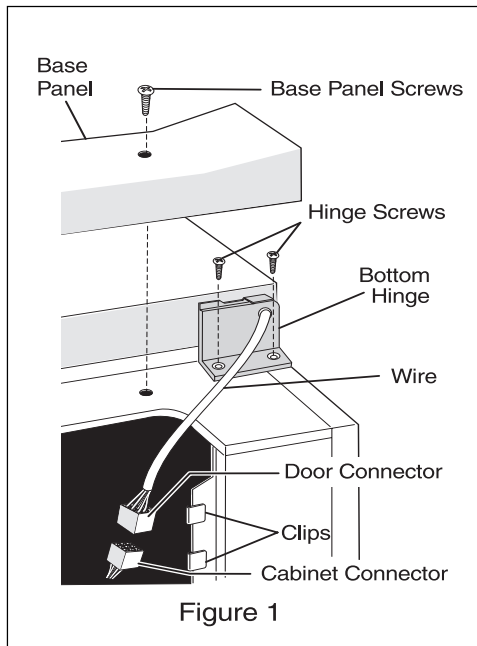

Figure 1
2. Remove the base panel by unscrewing two screws from front of base panel. Remove wire from clips on bottom of cabinet. (Figure 1)
3. Unplug connector by holding the cabinet connector in place, and pulling door connector out. (Figure 1)
- **On upright models** with a defrost drain (Figure 1), remove the drain plug on the inside floor of the freezer by pulling straight out. To access the external drain tube on models with a base panel, first remove the two screws from the base panel. Locate the drain tube near the left center under the freezer. Place a shallow pan under the drain tube. Defrost water will drain out. Check pan occasionally so water does not overflow. A  $\frac{1}{2}$  inch garden hose adaptor can be used to drain the freezer directly into a floor drain. If your model is not equipped with an adaptor, one can be purchased at most hardware stores. Replace the drain plug when defrosting and cleaning are completed. If the drain is left open, warm air may enter the freezer.